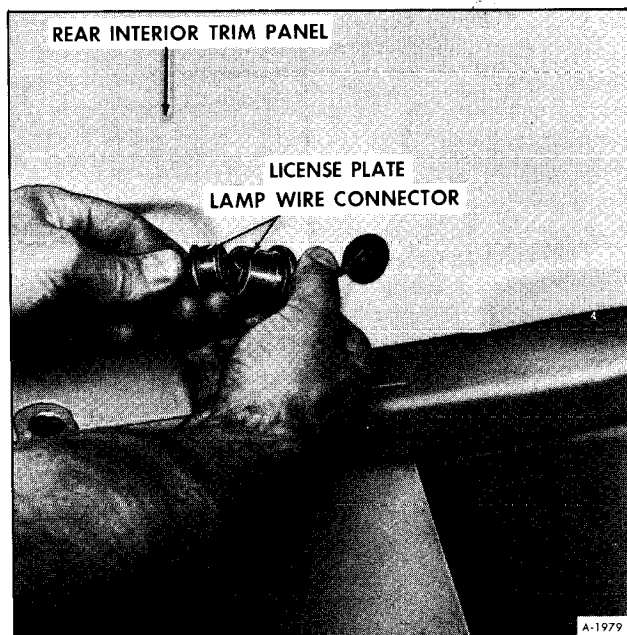

Figure 29—Disconnecting Wire to License Plate Lamp
1. Disconnect wires for license plate light at lower left-hand inside corner as shown in Figure 29.